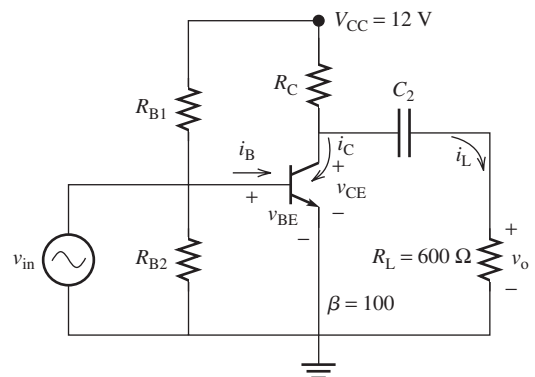

FIGURE P8.47 Circuit for Problem 8.47.
8.47 (H) Find the relationship between R_{B1} and R_{B2} , and the range of R_C to make the circuit given in Figure P8.47 operate in the: